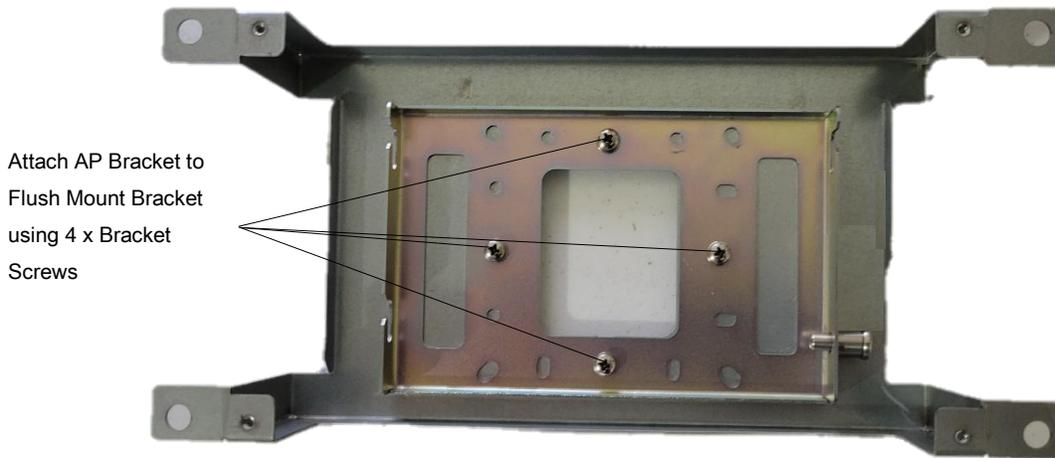

Figure 76: APV3-DAS - Mounting Standard Mounting Bracket to Flush Mount Bracket
- Install the APV3-DAS standard mounting bracket into the flush mount bracket using the (4) screws removed in the previous step. Ensure the standard mounting bracket is installed with the Spring-loaded Pin Lock on the right side. See Figure 76 below.